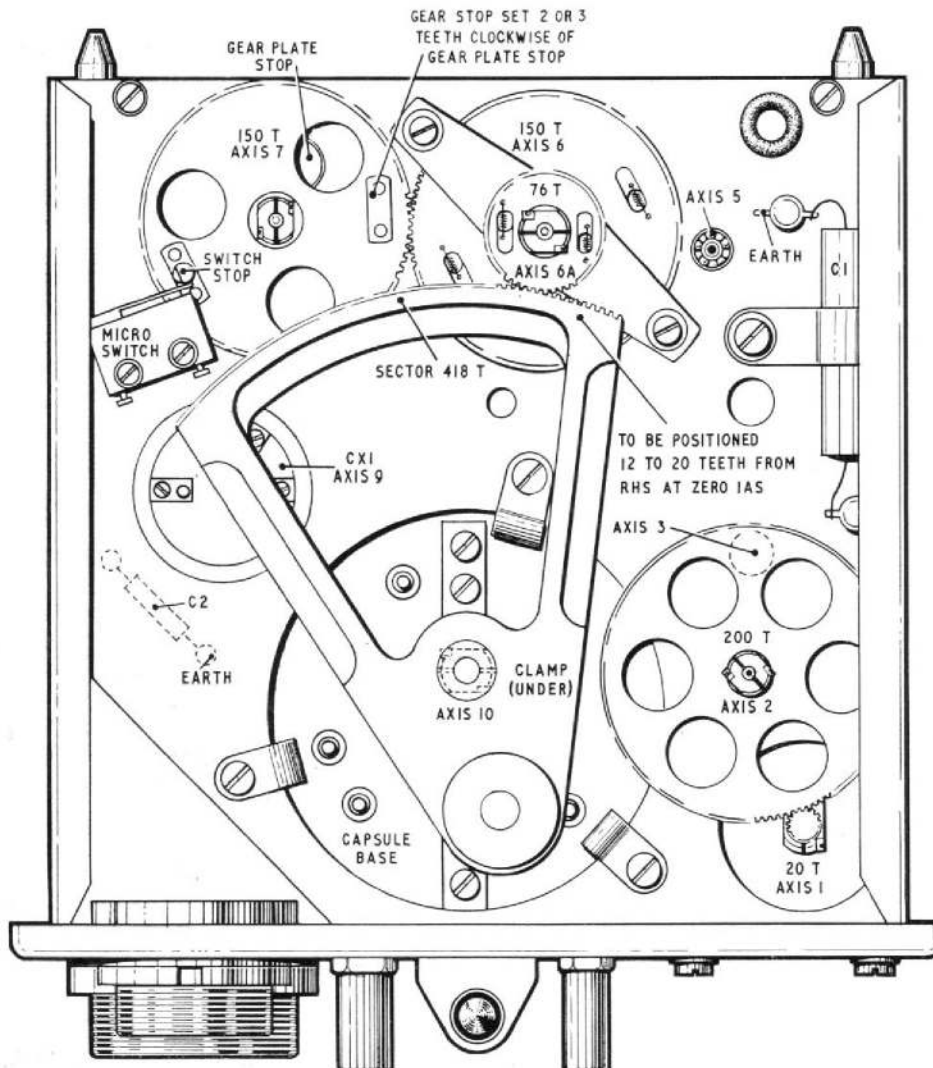
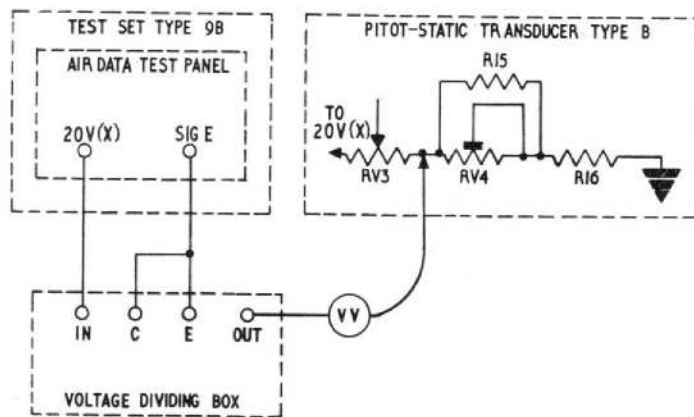

Fig. 1. Pitot-static transducer, Type B - underside view
Fig. 2. Test connections for log (P-S) calibration
1. The tests detailed in this appendix are additional to the standard serviceability test (Appendix 1) and are necessary either when certain components are replaced (Appendix 4) or during fault diagnosis (Appendix 2). Unless instructed to the contrary, these tests are to be performed with the transducer connected to the test set, Type 9B, and either the pitot/static test set, Mk. 3 or the air data test set, Type B as shown in Appendix 1, fig. 1, and the cover removed. The procedures detailed in Appendix 1, para. 4 to 15, must all have been carried out.
7. Connect the valve voltmeter set to the 300 mV range across capacitor C2 with the earth terminal of the meter connected to the earth terminal of C2 (fig. 1). Set the PCU mains switch and switch S1 (test set, Type 9B) to ON. Reduce the range of the valve voltmeter as necessary and check that the null indicated on the meter is not greater than 2mV r.m.s.; if necessary, adjust RV5 (Chap. 12, fig. 2) to achieve this. If the smallest null obtained is greater than 2mV, carry out the checks of Appendix 2, para. 10. If these are correct, then declare the transducer unserviceable.
10. With switches set as in para. 7 displace the 200T gear of axis 2 (fig. 1) one turn against the servo action and release it; it should make one overshoot in either direction before coming to rest. Repeat displacing the servo in the opposite direction. RV1 should be adjusted, if necessary, to achieve the required conditions.
11. Connect the valve voltmeter set to the 10V range across capacitor C1, with the meter earth terminal connected to the capacitor earth terminal (fig. 1). Set the PCU mains switch and switch S1 (test set, Type 9B) to ON. The voltage as read on the valve voltmeter should not exceed 5V r.m.s.
(2) Connect a shorting link between the junction of RV3 and RV2 and the 20V(X) side of RV2.
(3) Connect up subsidiary equipment as shown in fig. 2.
(4) Set the dividing box to a ratio of 1814, switch S1 (test set, Type 9B) to ON and adjust RV4 until the valve voltmeter indicates a null.
(5) Remove the shorting link across RV2 and disconnect the wander lead.
(6) Connect the wander lead to the junction of RV3/RV2, set the dividing box to 8270 and adjust RV2 until the valve voltmeter indicates a null, which must be less than 2mV.
(4) If the cam follower is incorrectly positioned, release the clamp locking CU8 (fig. 1) and set the cam follower to the correct position without disturbing the gear train. Refasten the clamp to the correct torque loading and check the G1 reading.
(5) Reduce the P-S pressure to 16.33 mb (100kt) and check that the G1 reading is 00350 ± 2 divisions. If this is incorrect, release the three 6BA screws clamping CX1 and without disturbing the gear train, turn the synchro until the G1 reading is correct. Refasten the clamp, ensuring that the G1 reading remains constant whilst doing so.
(6) Carry out the ranging test of Appendix 1.
(7) If the IAS results obtained are not within the permitted tolerances, repeat the procedure of sub-para. (2), (3) and (4), retarding the cam a fraction if the errors are positive and advancing the cam if the errors are negative.
(8) Repeat sub-para. (6) and (7) until all readings are within tolerance.
- (1) Switch S1 (test set, Type 9B) to OFF.
- (2) Disconnect pin N on the magnetic amplifier.
- (3) Connect the multimeter set to the 10mA d.c. range between pin N and the loose lead and switch S1 (test set, Type 9B) to ON.
- (4) Rotate the 200T gear of axis 2 (fig. 1) against the action of the servo until the multimeter indicates 4mA; to achieve this, the gear should not rotate through more than one third of a revolution.
21. Connect the valve voltmeter set to the 100V range across capacitor C1 with the meter earth terminal connected to the capacitor earth terminal (fig. 1). Repeat the test of para. 17, noting the valve voltmeter reading and the multimeter reading. When the multimeter reads 4mA, the valve voltmeter should read greater than 30V in each direction of revolution of the gear.